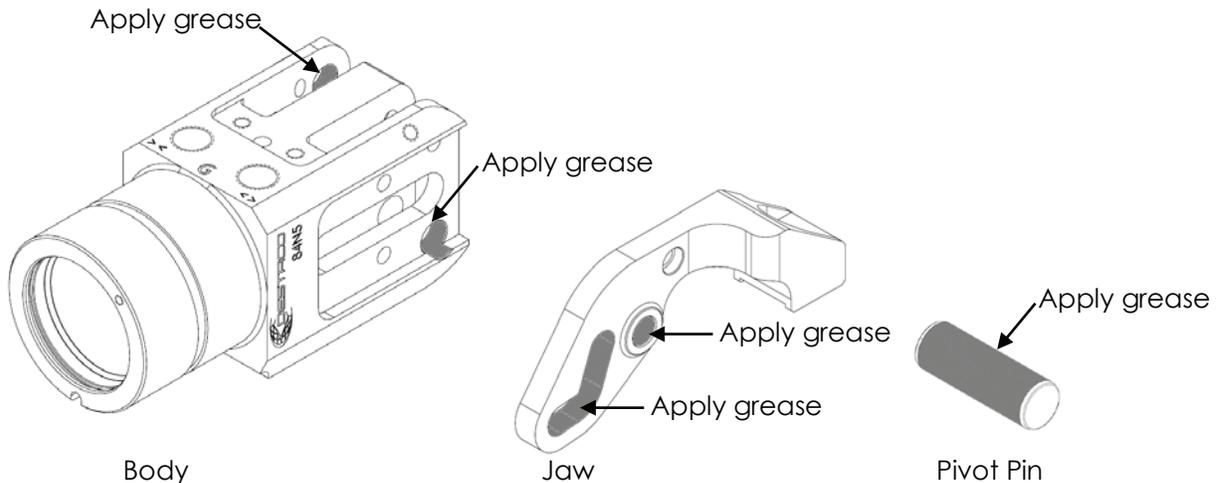

Fig.12
- Replacement jaw: Apply NYE 368 RHEOLUBE or equivalent grease to the jaw cam surface, pivot pinhole of the jaw and gripper body and to the pivot pin (see Fig.12).